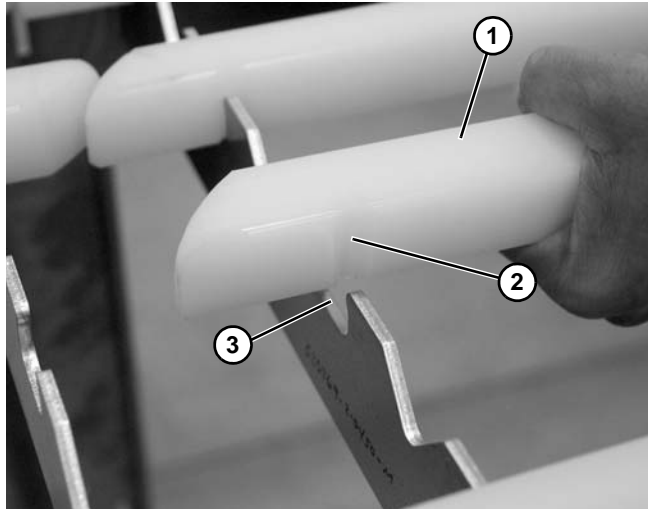

Figure 52
2. Remove worn wear strips (Figure 52, item 1) from the frame notches.
3. Attach new wear strips by installing with the rounded slot (Figure 52, item 2) in wearstrip into the slot (Figure 52, item 3) on the crossmember.